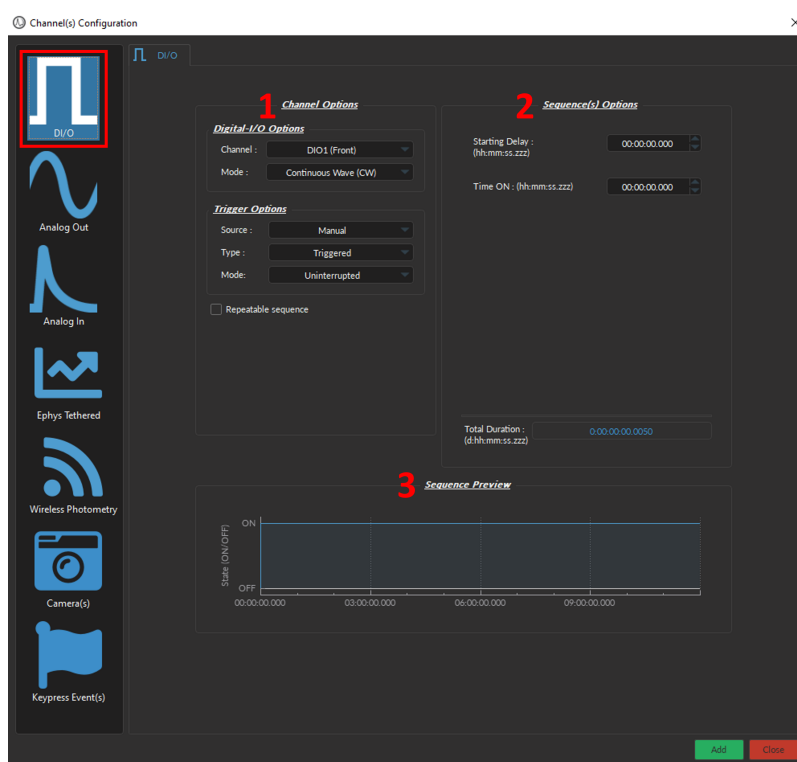

Figure 11.30: *Channel(s) configuration, Digital I/O*
The *Channel(s) Configuration* window for the **Digital I/O** Channel is divided into three sections (Fig. 11.30): (1) the **Channel Options** (Section 11.6.1.1), (2) the **Sequence Options** & (3) **Preview** (both treated in Section 11.6.1.2).